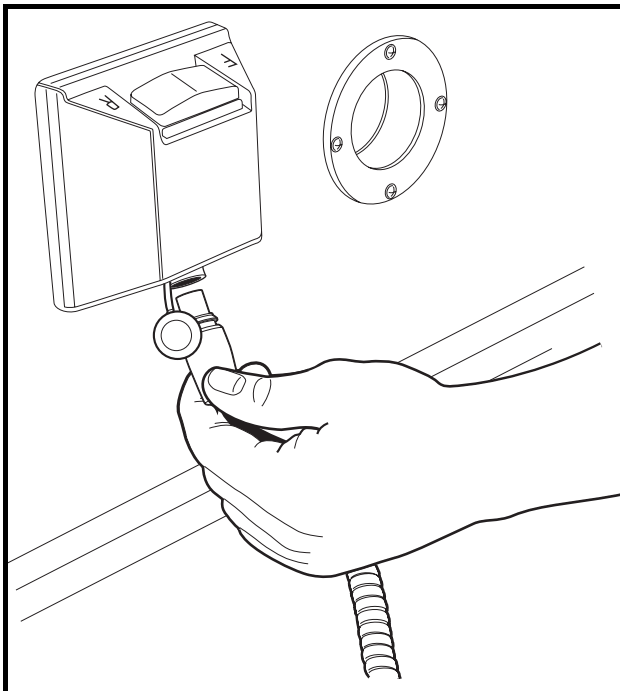
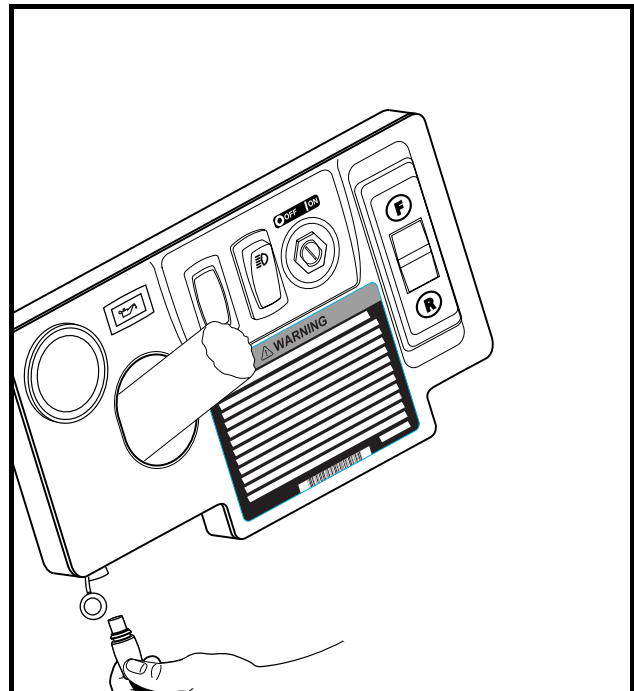

Figure 29-1 IQDM Jack On F&R Switch Housing
Figure 29-2 IQDM Jack Under Instrument Panel
3. Find the IQDM jack on the vehicle (**Figure 29-1, Page 29-1 or Figure 29-2, Page 29-1**).